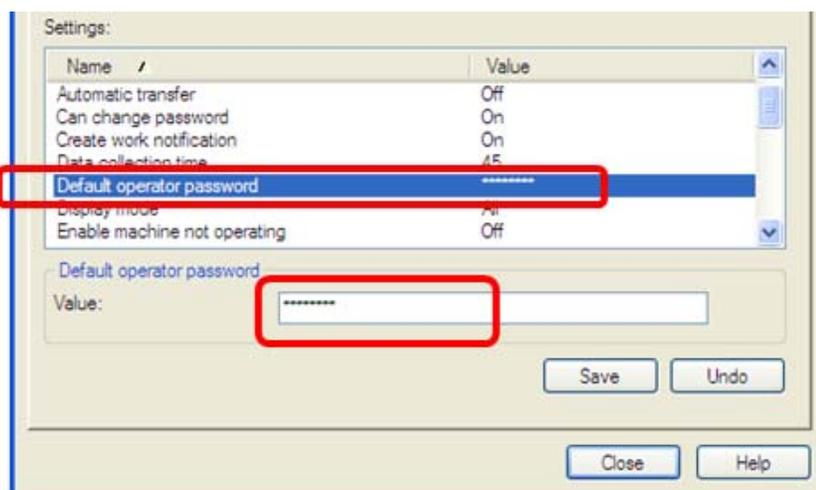

Figure 5. Change default operator password
- Now, change the default password by scrolling up and selecting **Default operator password**. [Figure 5] Set the value to **skf** (or as desired).